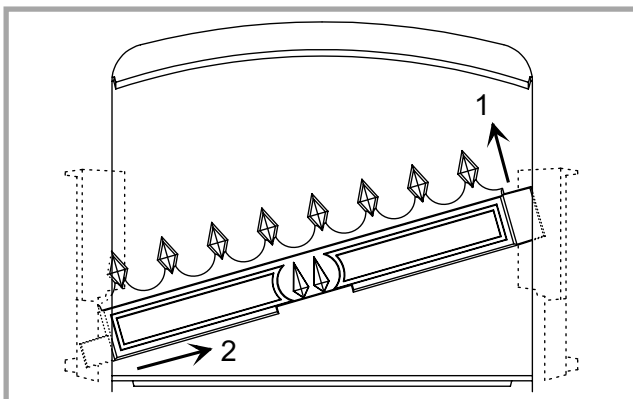
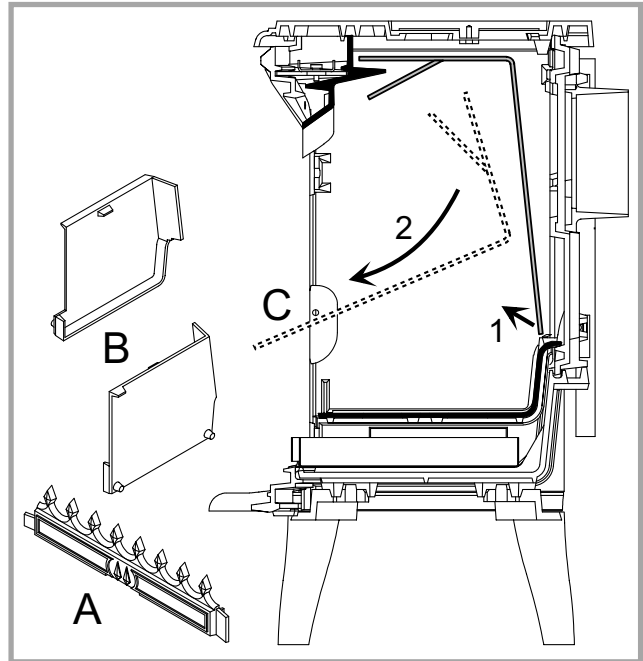

Figure 6 - Removing the fuel retainer
Figure 7 - Removing the flue baffle
- Remove the retainer fuel (fig. 6, p. 6), the two side bricks # 23 and 24 p. 11) and the flue baffle (fig. 7, p. 6).
First remove the retainer grate (fig. 6), the two side bricks and the flue baffle (fig. 7).